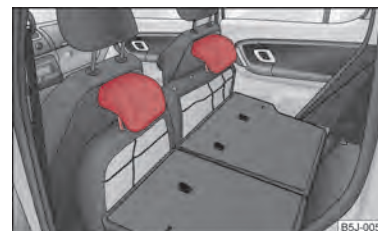

Fig. 42 Rear seats: Inserting head restraints in the seat cushions
- The head restraints can be inserted into the relevant holes of the folded forward seat cushions ⇒ fig. 42.